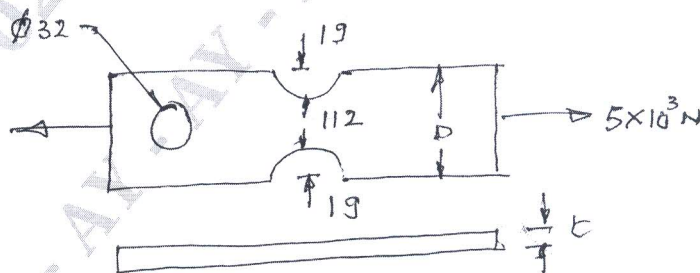

Fig.Q.2(c)
c. A flat bar, shown in Fig.Q.2(c) is subjected to an axial load of  $5 \times 10^5 \text{ N}$ . Assuming the stress in the bar limited to  $400 \text{ N/mm}^2$ , determine the thickness of the bar. (08 Marks)